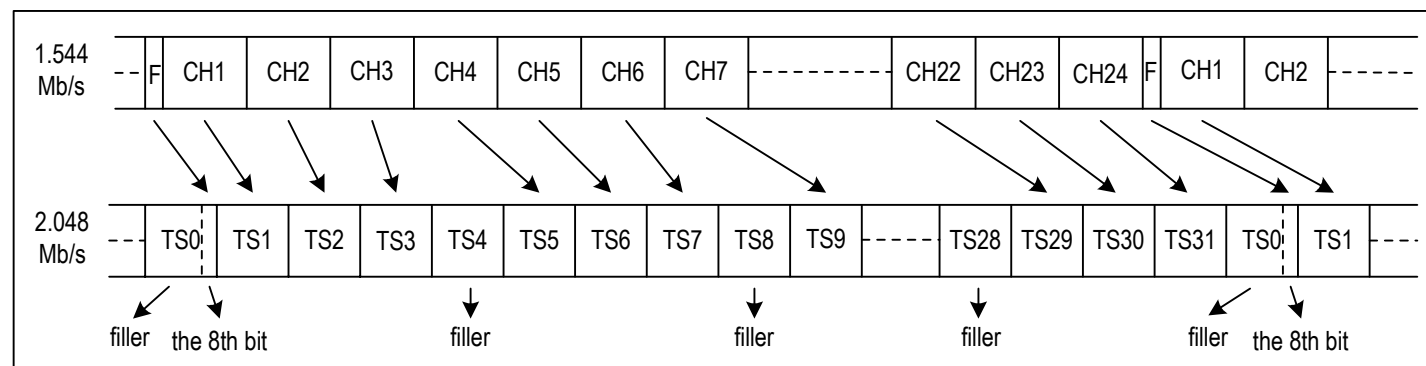

Figure 19. T1/J1 To E1 Format Mapping - One Filler Every Fourth Channel Mode
2. T1/J1 Mode E1 Rate per One Filler Every Fourth CH (refer to Figure 19): One dummy byte is inserted on the system side before 3 bytes of Frame N from the device are converted. This process repeats 8 times and the conversion of Frame N of 1.544 Mb/s data rate to 2.048 Mb/s data rate is completed. However, the F-bit of Frame N of the 1.544 Mb/s data rate is inserted as the 8th bit of Frame N of the 2.048 Mb/s data rate. The dummy bytes are filled with all '0's and they are meaningless.